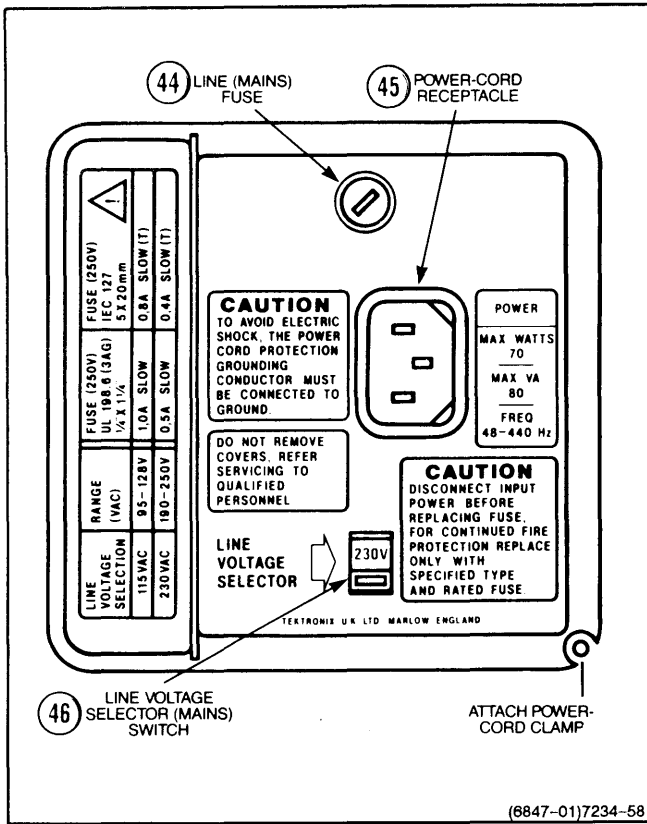

Figure 2-9. Rear panel.
See Figure 2-9 for the location of items 44 through 46.
- ④④ **Fuse Holder**—Contains the ac-power-source fuse. See the rear panel nomenclature for fuse rating and line voltage range.
- ④⑤ **Detachable Power Cord Receptacle**—Provides the connection point for the ac power source to the instrument.
- ④⑥ **Line Voltage Selector (Mains switch)**—Selects the line voltage range either 115 V or 230 V.